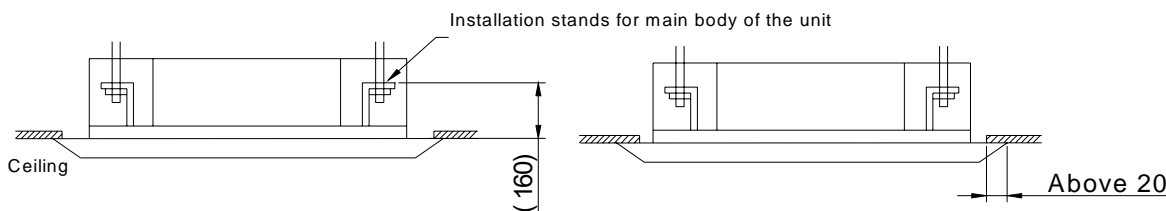

Fig.2
- 3 Adjust the unit to the suitable install place. (Refer to the fig.2)